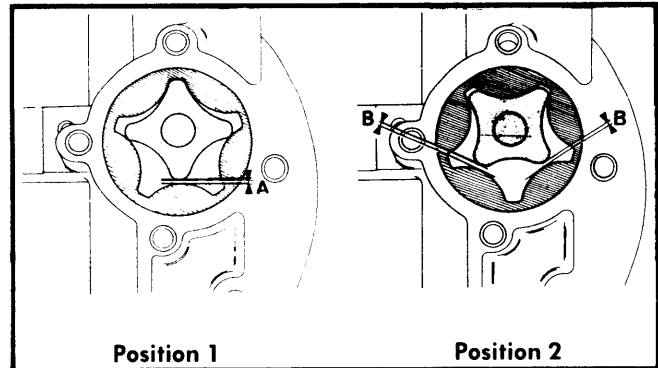

Fig. 13 Measurement Points of Oil Pump Rotor Clearance
3) Measure tip clearance in both positions shown in Fig. 13. Clearance in "POSITION 1" must be .002-.012" (.05-.30 mm) and .001-.006" (.03-.15 mm) in "POSITION 2". If either tolerance is exceeded, rotors must be changed.